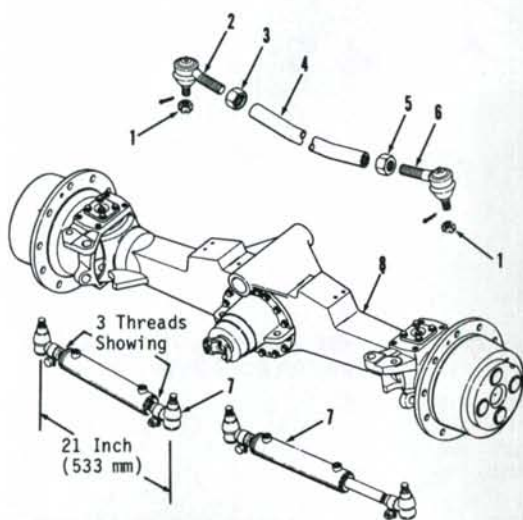

Fig. 5—Front drive axle, tie rod and steering cylinders removed from tractor.
**8.** Due to the closeness between tie rod and front support, removal of tie rod and toe-in adjustment can be accomplished only after removal of front drive axle assembly as outlined in paragraph 6. Disassembly of tie rod is obvious after removal and reference to Fig. 5. Toe-in should be adjusted to 0-0.5 inch (0-12.7 mm). One full turn of a tie rod end (2 or 6) will change toe-in 3/8 inch (9.5 mm). Make sure bow of tie rod tube (4) is down.